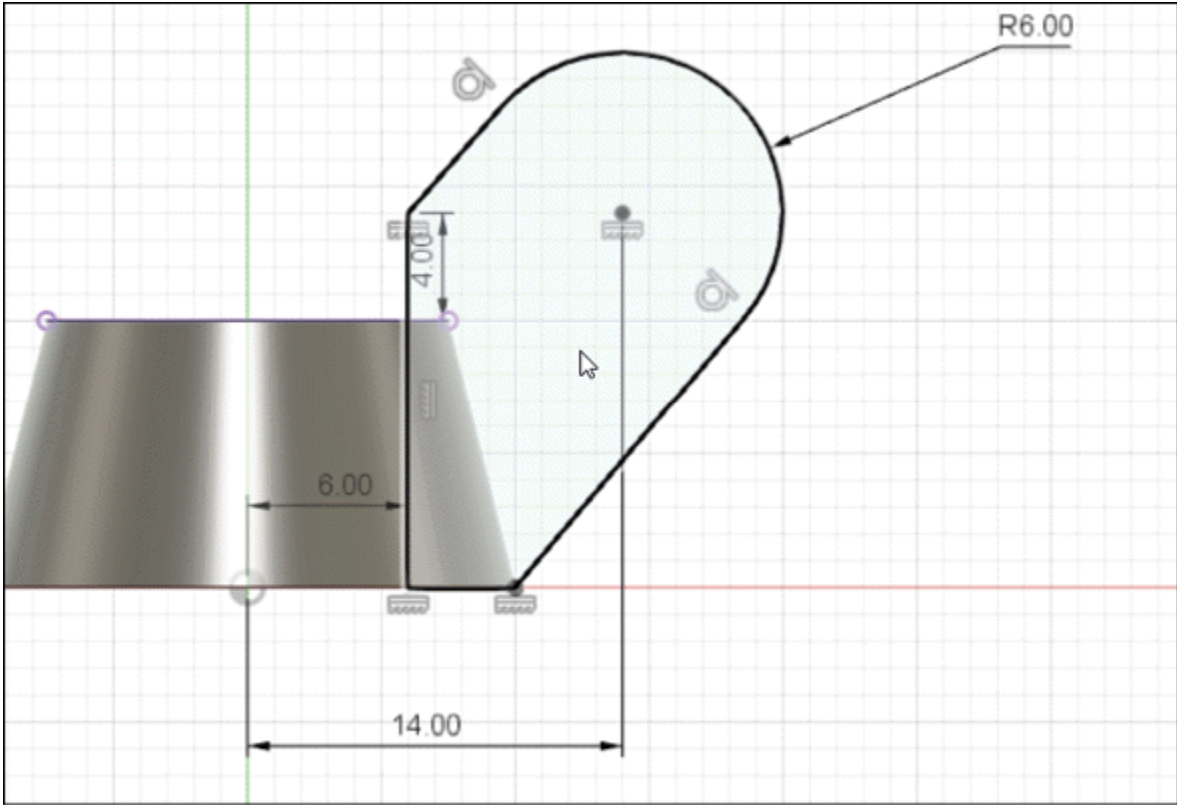

Figure-105. Sketch for nut wing
- Click on the **Create Sketch** tool from **CREATE** panel in the **Ribbon** and select the Front (XY) plane. The sketching environment will be activated.
- Create the sketch as shown in Figure-105. Click on the **Finish Sketch** tool from the **Ribbon** to exit sketching environment.